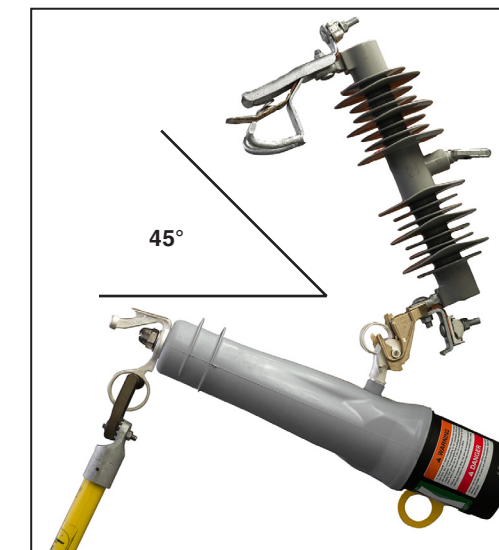

Figure 3. A VacuFuse II interrupter within approximately 45 degrees of the fully Closed position.
STEP 4. Swing the VacuFuse II interrupter to within approximately 45 degrees of the fully **Closed** position. See Figure 3.